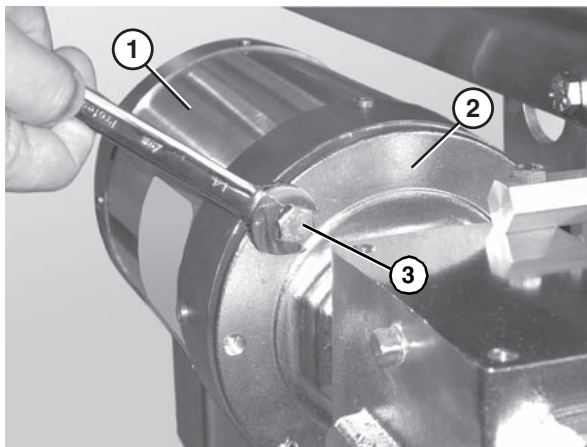

Figure 55
1. Remove the bolts that connect the motor to the drive assembly (Figure 55, item 3).
2. Remove the motor (Figure 55, item 1) from the drive assembly (Figure 55, item 2).